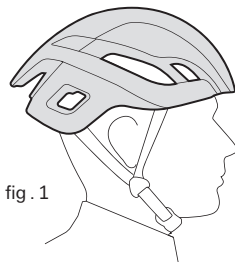

fig. 1
1. Always wear a cycling helmet which meets the latest certification standards and is appropriate for the type of riding you do (fig. 1). Always follow the helmet manufacturer's instructions for fit, use and care of your helmet. Most serious bicycle injuries involve head injuries which might have been avoided if the rider had worn an appropriate helmet.